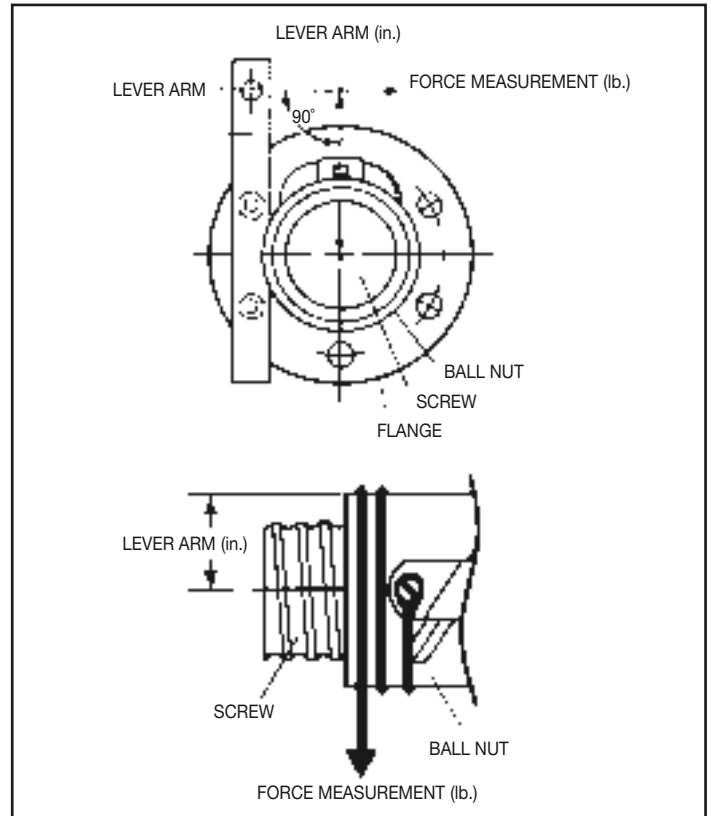

Figure 11
**Inspection and Existing Preload Check:** Whenever possible, the complete ball screw assembly should be removed from the machine prior to a thorough inspection. Preliminary screw inspection can be made while the unit is still in the machine. Preload can be determined by measuring movement of the nut in respect to the screw shaft. Clamp an indicator to the screw shaft with its probe resting on the face of the nut. Apply a load to the machine carriage in both directions. Be sure that the screw cannot rotate or move axially. Any measurable backlash between the ball nut and screw is an indication that preload does not exist. (See Figure 11.)
Torque can be measured by means of a spring scale mounted to any projection on the ball nut or by means of a lever or rod secured to the ball nut. In taking this measurement, be sure the exact lever arm distance is measured. (See Figure 11.) This measurement (in.) multiplied by the scale reading (lb.) equals  $T_p$  (torque lb.-in.). Existing preload can now be determined using the above formula.